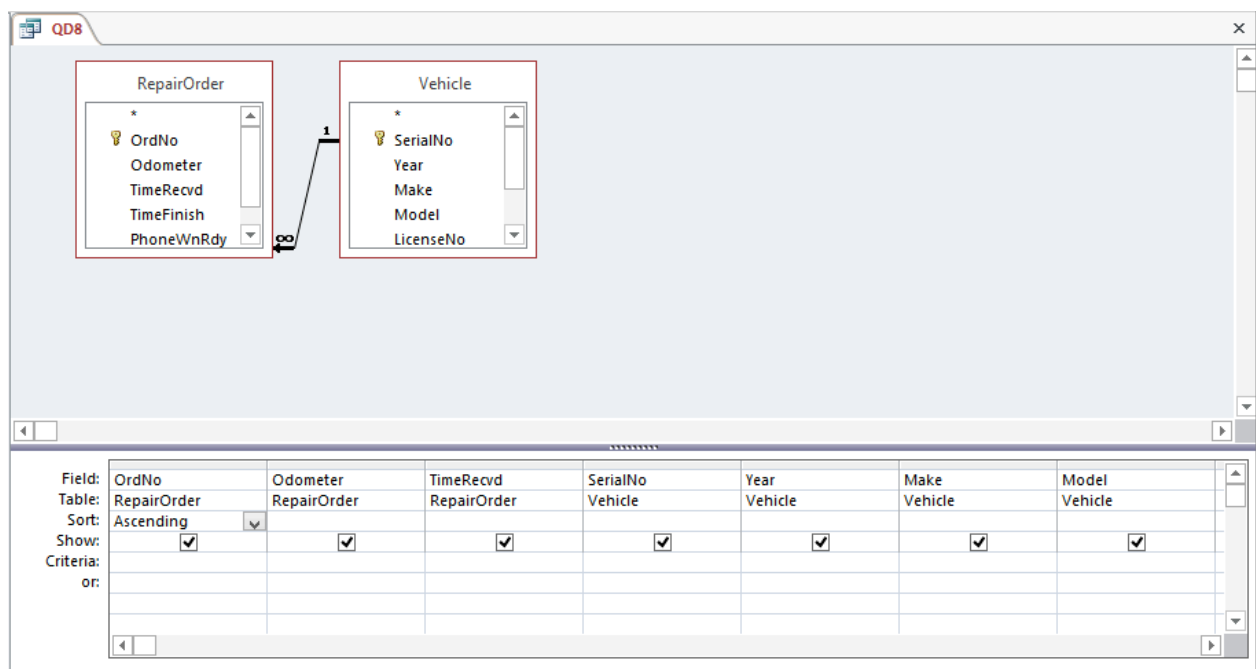

Figure 31: Query Design Window of Completed “QD8”
3. Change the Connection Type: In the Query Design window, double-click on the line connecting the tables to open the Join Properties window (refer back to Figure 27). Select the second choice, “Include ALL records from ‘Vehicle’ and only those records from ‘RepairOrder’ where the joined fields are equal.”, and then click **OK**. This choice connects the tables with a one-sided join that preserves the *Vehicle* records. In Figure 31, note the arrow from the *Vehicle* to the *RepairOrder* table indicating a one-sided outer join.